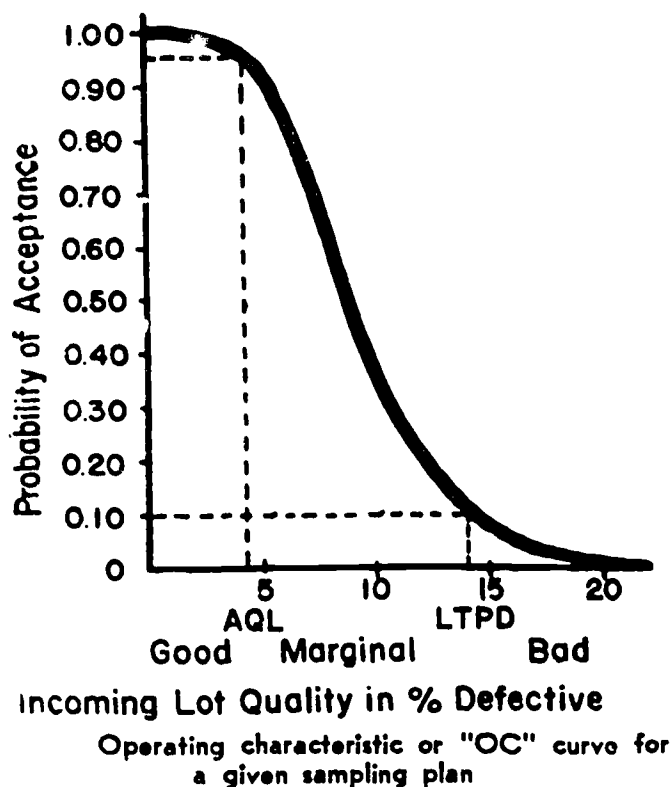

Figure 1-1. Operating curve for a given sample.
Consider the curve shown in figure 1-1. It is called an operating characteristic or OC curve. The horizontal axis represents various degrees of lot quality in percent defective that may be submitted to the plan for acceptance. The vertical scale is the probability scale. It gives the probability that if a lot of specified percent defective quality is submitted, the plan will accept the lot. Thus, with an OC curve before us, we can see how the plan will react to all kinds of quality from very good to very bad.
Whatever value you choose for the AQL or the LTPD, the OC curve for this plan will tell you what you can expect the plan to do to these good and bad lots in the long run. Any AQL and LTPD you choose separates incoming lots into three classes, as shown in figure 1-1. There is: (1) a high possibility of consistently accepting good lots, (2) a low possibility of accepting bad lots, and (3) a decreasing likelihood of taking lots of marginal quality as the submitted lots in this zone get poorer in quality.